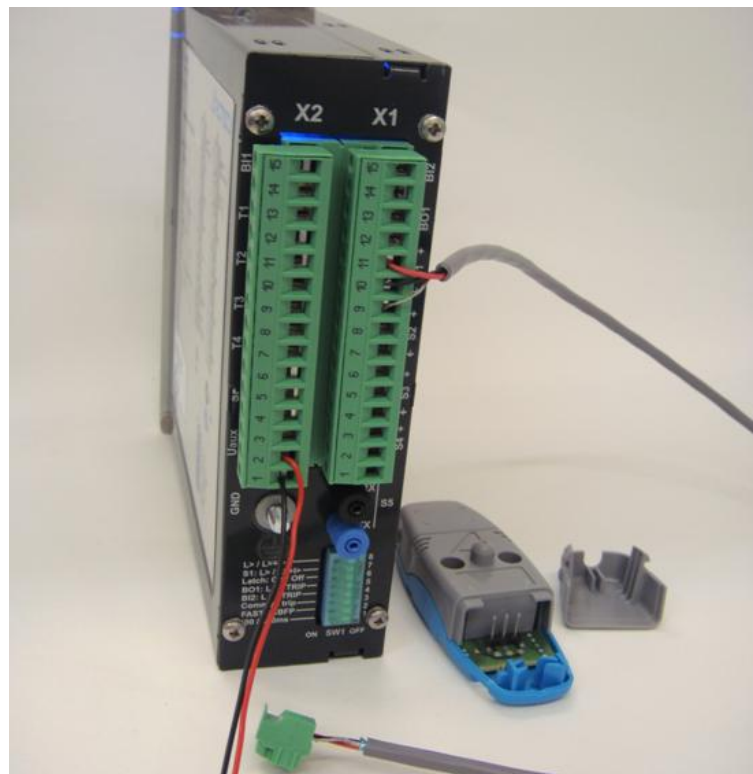

Figure 4.8
3) Connect the other end of the cable to a sensor channel on the AQ101 or AQ110P unit. (See Figure 4.8),